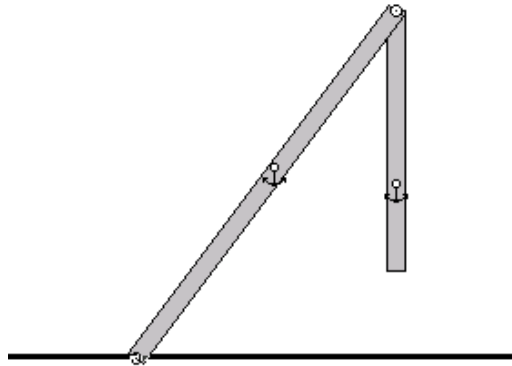

Figure 4
8. Select the Slot Joint  from the tool bar and place it on exactly at point A. You will see a horizontal slot element similar to Figure 4.